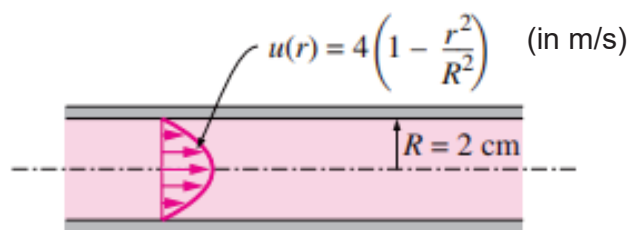

Figure 2 / Rajah 2
- (b). The velocity profile in fully-developed laminar flow in a circular pipe is given by $u(r) = u_{\max}(1 - r^2/R^2)$. Determine (i) maximum velocity, (ii) average velocity, and (iii) volume flow rate in a pipe with inner radius, $R = 2$ cm as shown in Figure 2.